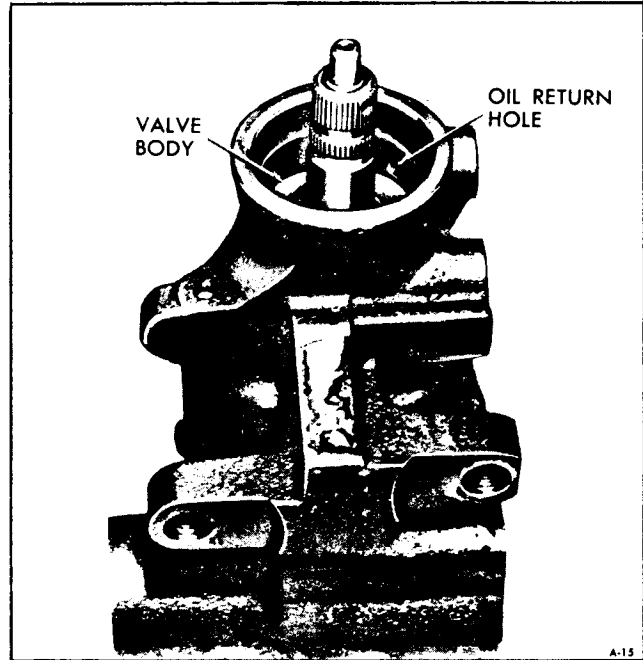

Figure 50-Valve Body in Housing
**NOTE:** The valve body is properly seated when the oil return hole in the housing is entirely uncovered (figure 50).